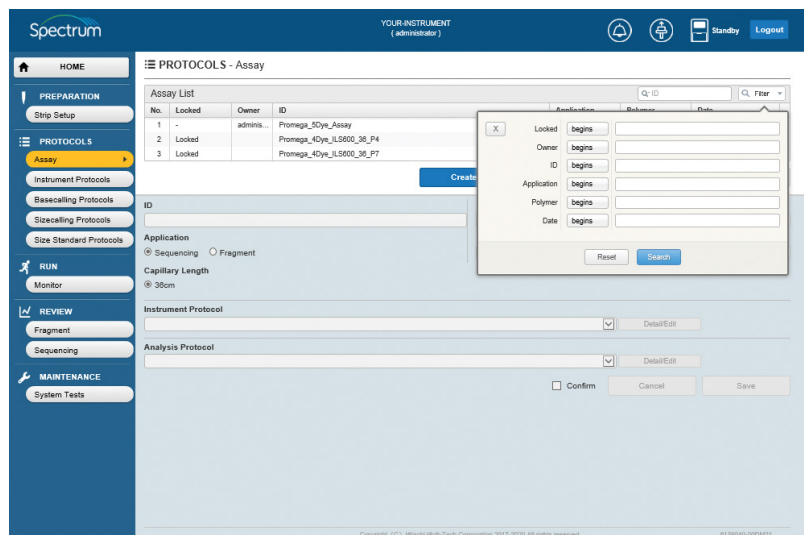

Figure 78. Assay List search filter option selection.
3. After selecting the appropriate search field, select the magnifying glass or down arrow icon in the Filter box to display filtering options by the different fields (Figure 78).